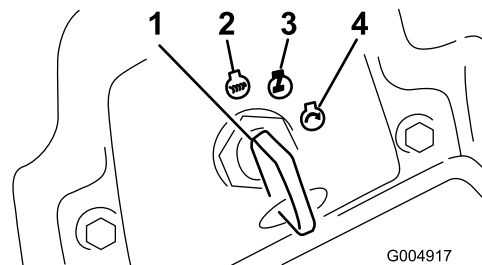

Figure 15
6. Turn the ignition key clockwise to the Run position (Figure 15).
4. Turn the ignition key to the Off position (Figure 15). Wait for all moving parts to stop before leaving the operating position.